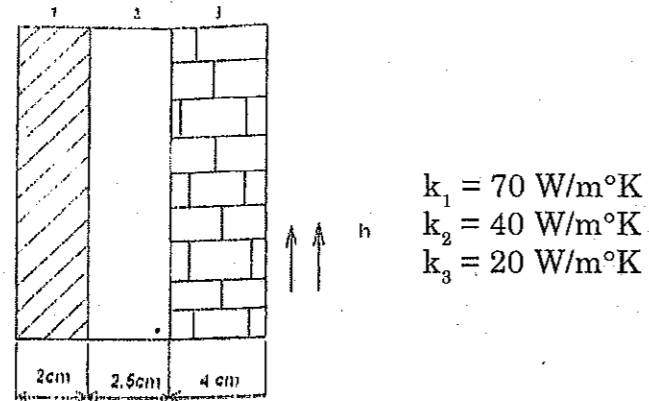

Fig. 12 (a)
12. a) A composite wall consists of three materials as shown in Fig. 12 (a). The inside wall temperature is 100°C and the outside air temperature is 50°C with a convection coefficient h of 10 W/cm²°C. Determine the temperature along the composite wall if the conduction coefficients of the three materials are as given in the figure.